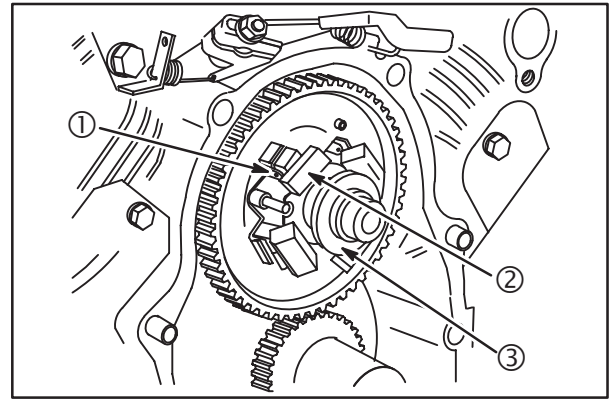

Fig. 7
- Governor spool (3) must move freely on PTO journal of camshaft, Fig. 7. Replace if spool sticks or bearing is damaged.
- Flyweights (2) must move freely on hinge pins (1). Replace camshaft if hinge pins are loose or governor spool does not move freely on journal.